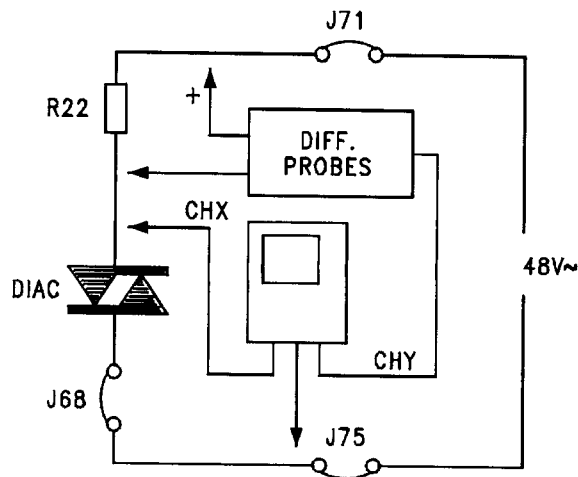

fig.B12.13
- Connect jumpers J71, J68, J75, and connect the oscilloscope as indicated in the figure B12.13